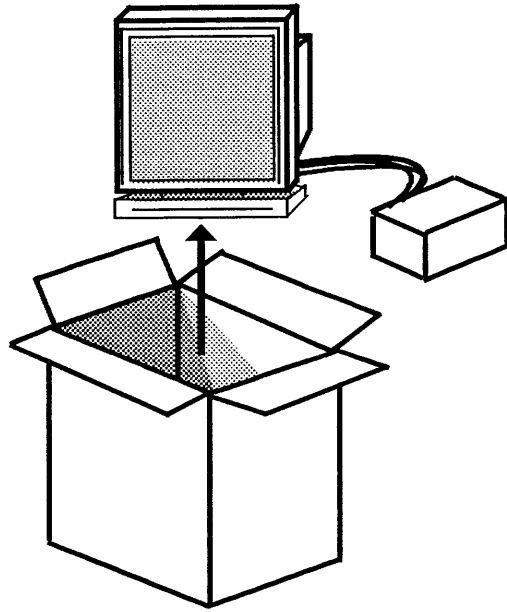

Figure 8. Unpacking the Display
1. Unpack the box marked "Display." (Figure 8)